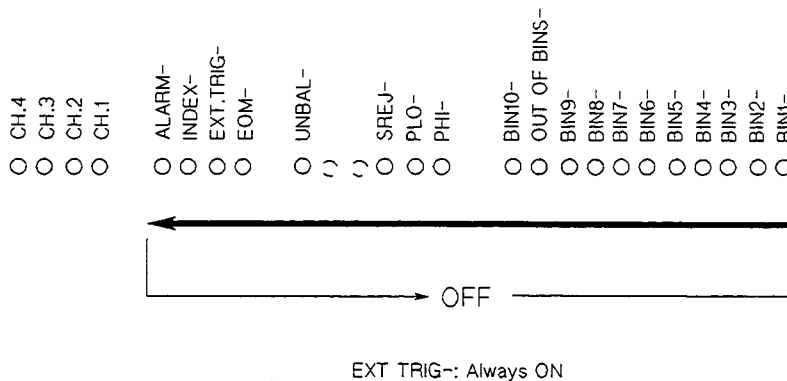

Figure 1-23. Handler Interface Function Check
17. Confirm that the LEDs on the handler simulator turn ON in accordance with the HP 4285A's output signals displayed on the LCD. The LEDs turns ON in the sequence shown in Figure 1-23.